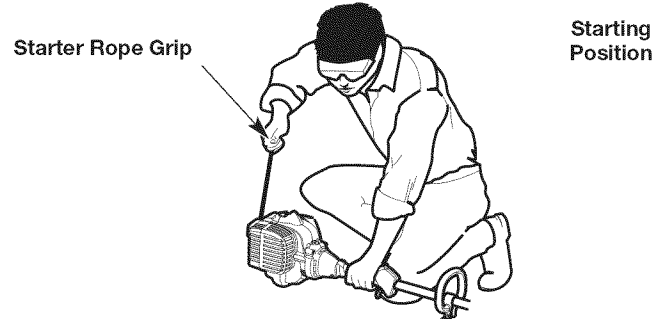

Fig. 11
WARNING: Avoid accidentally starting the unit. To avoid serious injury, the operator and the unit must be in a stable position when pulling the starter rope (Fig. 11).
5. **DO NOT** squeeze the throttle control. Crouch in the starting position (Fig. 11).
6. **DO NOT** squeeze the throttle control. Pull the starter rope with a controlled and steady motion until the unit starts (Fig. 11).